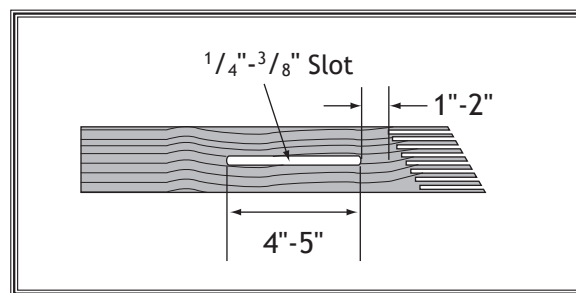

Figure 64. Slot cut into the featherboard for use with a miter slot.
4. Rout a $\frac{1}{4}$ "- $\frac{3}{8}$ " wide slot 4"-5" long in the workpiece and 1"-2" from the short end of the featherboard, as illustrated in **Figure 64**.